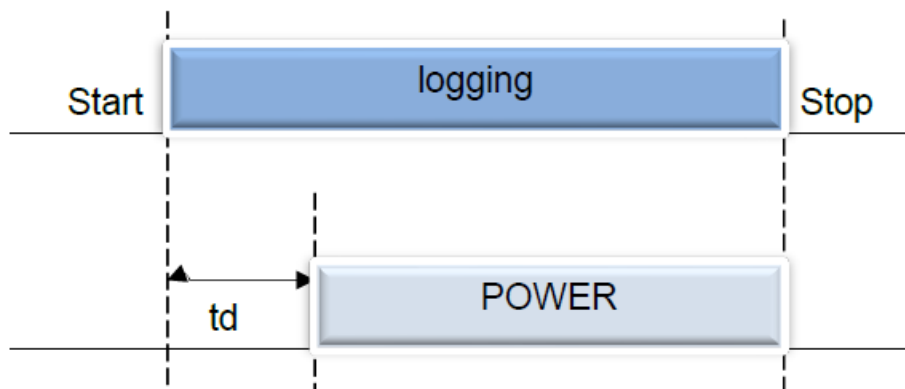

FIGURE 5.3: DELAYED POWER SUPPLY
- Start with a delay linked to the measurement process. The delay time is 100 measurement samples but no more than 100ms—refer to Figure 5.3. Press the Apply button to activate the new settings.